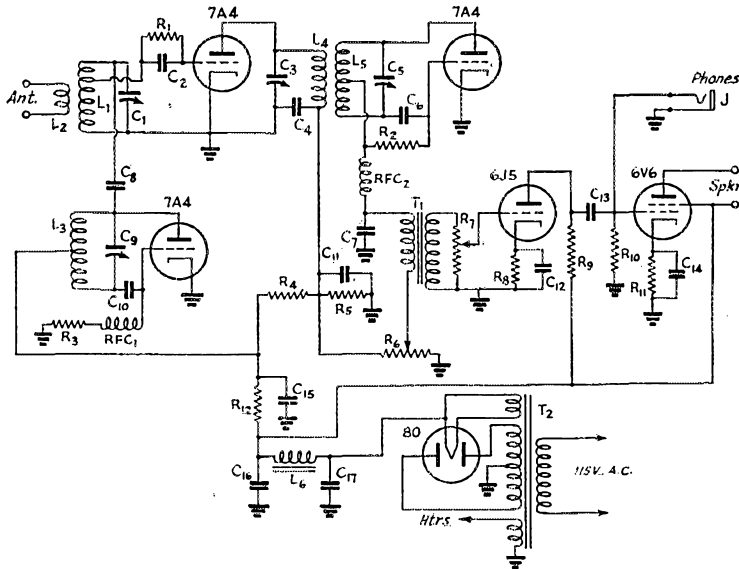

Fig. 1 — Circuit diagram of the 112-Mc. superregenerative superhet for WERS main or sub-control stations.
* A complete circuit diagram of the receiver is given in Fig. 1. Because an old cabinet we happened to have available was large enough to permit it, we included a power supply with the receiver proper. Although this is convenient, it also turned out not to be an unmixed blessing, since the audio transformer coupling the superregenerative detector to the first audio stage picks up some hum from the power transformer despite the fact that in the actual set it is placed as far as possible from the transformer and has its windings oriented so that the coupling is minimized. This trouble will not occur if the receiver and power supply are separate. The audio section of the receiver consists of a 6C5 and 6V6, and can be dismissed with the comment that the circuit is conventional except for the fact that the 'phone jack is simply shunted across the 6V6 grid circuit rather than being arranged to disconnect the audio signal from the speaker tube when the 'phones are plugged in. This allows others to hear what is going on while the operator excludes outside noise by wearing 'phones. Some may prefer the customary circuit which silences the speaker when headphones are in use.
Once the signal is spotted, the mixer circuit should be adjusted to resonance. It is probable that the coil will have to be pruned or the turn spacing altered to bring the signal definitely on the tuning scale of C_1 . The coil size also depends upon the position of the grid tap, since the greater the number of turns included between the tap and ground the greater is the effect of the shunting tube capacity. By a process of cut-and-try the coil size and tap position which give maximum signal strength can eventually be determined. The specifications in Fig. 1 will serve as a starting